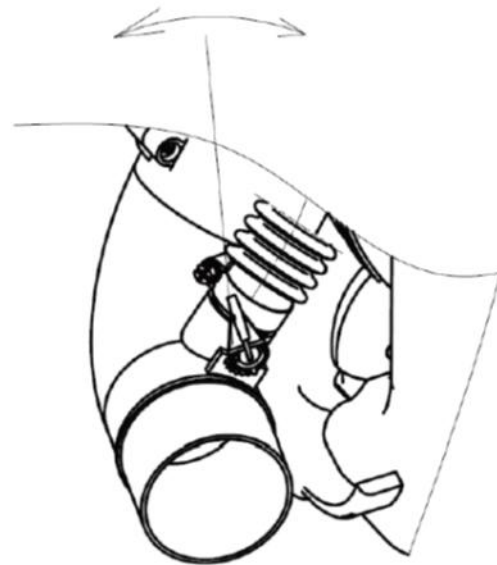

Fig. 10
(2) Dusting. Regulate the discharge by shifting the dust rod's position in the three holes of the rock-arm. See Fig.10.